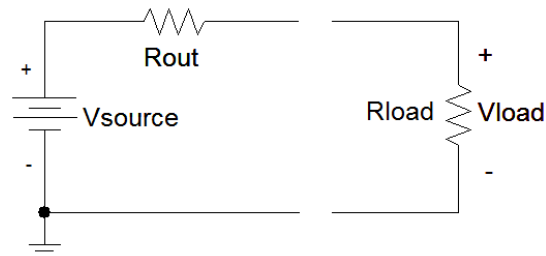

Figure 1 – Voltage source Thévenin equivalent and load resistor.
Earlier in the semester we emphasized the significance of *loading effects*. We must make sure that connecting a load to a circuit does not drastically change the open circuit voltage. A voltage source is said to be “stiff” if it can supply a constant voltage to the load, regardless of the load resistance. We can model a voltage source by its Thévenin equivalent circuit, as in Fig. 1. The Thévenin resistance is called the *output resistance* of the source, R_{out} . This connects to a load with *input resistance* given by R_{load} .
The circuit in Fig. 1 is simply voltage division. The voltage delivered to the load, V_{load} , is
1. A simple voltage divider is to be used as a voltage supply. Its Thévenin equivalent voltage is 10 V and resistance is $100\ \Omega$. In Multisim, construct this circuit as in Fig. 1 (with load resistor connected). Determine the load voltage for the case of $R_{load} = 10\text{ k}\Omega$, $1\text{ k}\Omega$, and $100\ \Omega$.